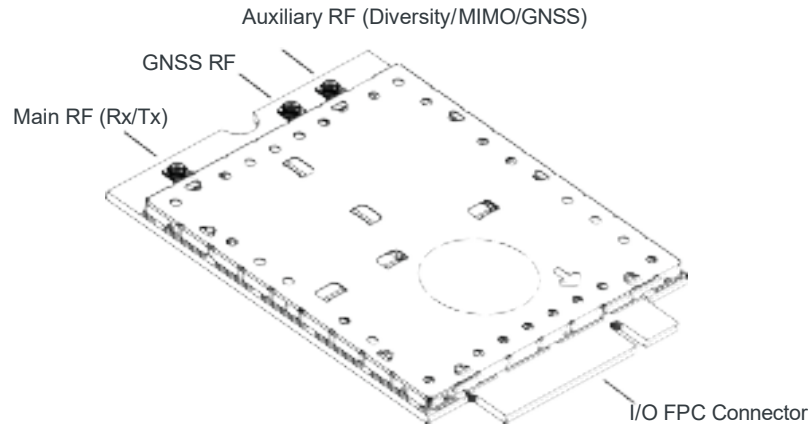

Figure 3-1: Module Connectors (Preliminary shield design, subject to change)
- Connect to system ground using the mounting hole shown in Figure 3-1 on page 36.